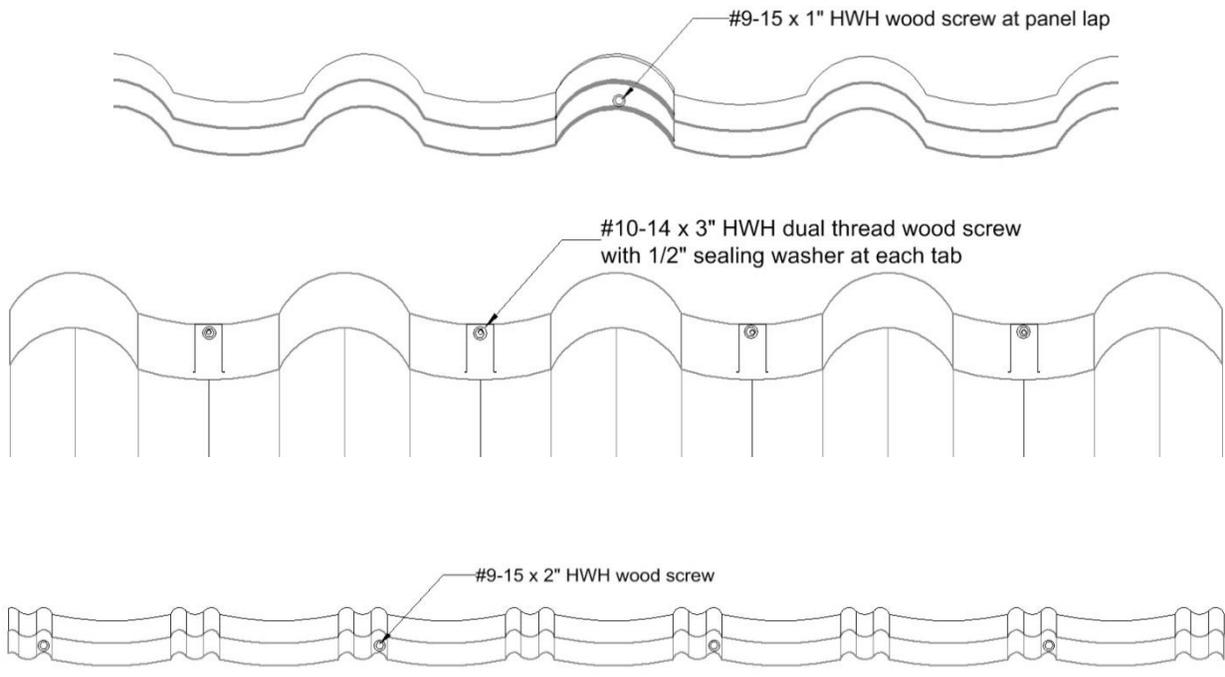

Figure 3: Terrabella Verona® Panels Fastened to Wood Deck
**Panel Attachment:** The panels are secured to the roof deck with four No. 10-14 x 3" HWH self-drilling, dual thread corrosion resistant wood screws with 1/2" sealing washers per panel. The screws are installed 7-1/4" from each edge of the panel and spaced 8-7/8" between the edge screws through the preformed fastening tabs securing the panel to the deck. One No. 9-15 x 1" HWH wood screw installed at the vertical section of the head/side lap. Refer to Figure 3 for attachment details.